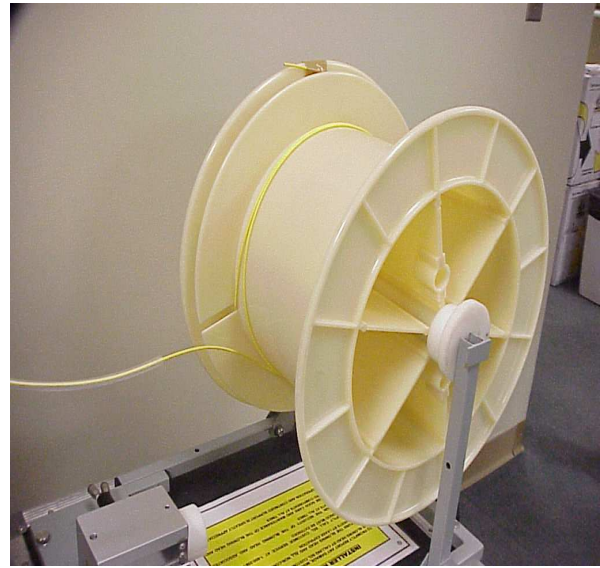

Figure 10
9.4 Guide fiber bundle onto reel and secure (tape) end of bundle to reel's drum. **See Fig. 10.**